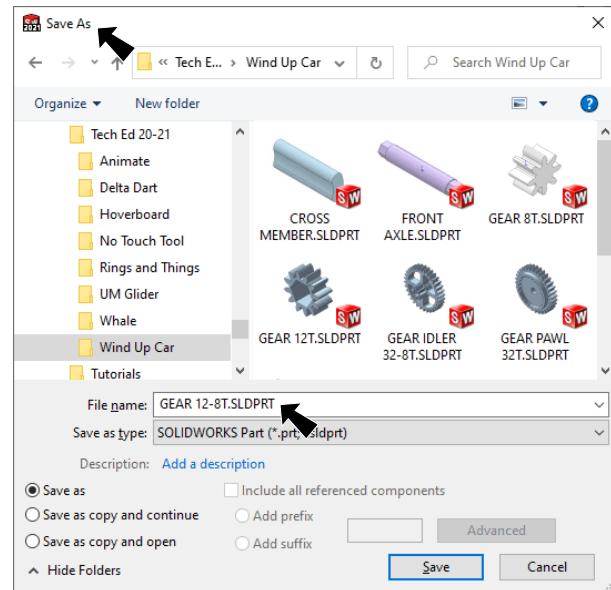

Fig. 1
Step 2. Key-in GEAR PINION 12-8T for the filename and press ENTER, Fig. 1.